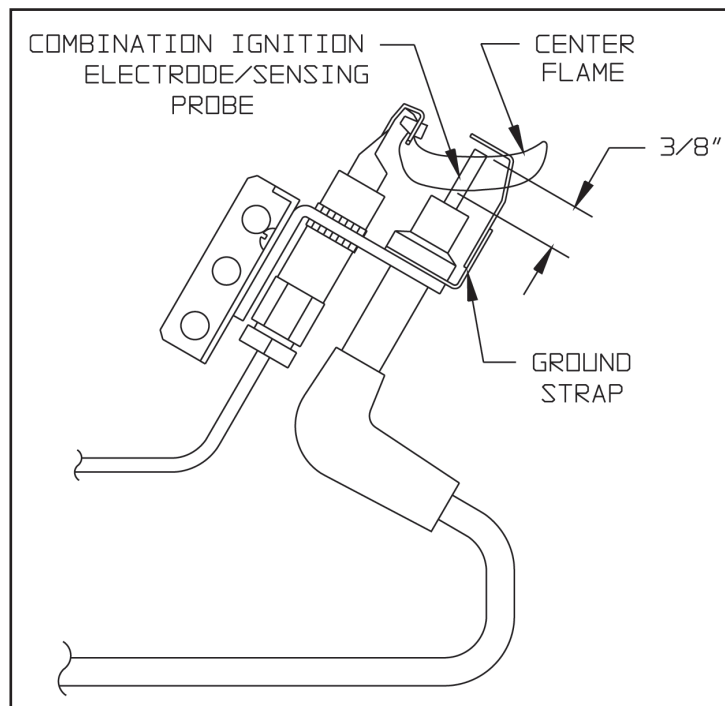

FIGURE 13: INTERMITTENT IGNITION PILOT BURNER FLAME
- 10) Observe pilot burner flame. Pilot burner produces three flames. The center one should be a steady medium blue flame covering around 3/8" to 1/2" of spark electrode/flame rod. See Figure 13.